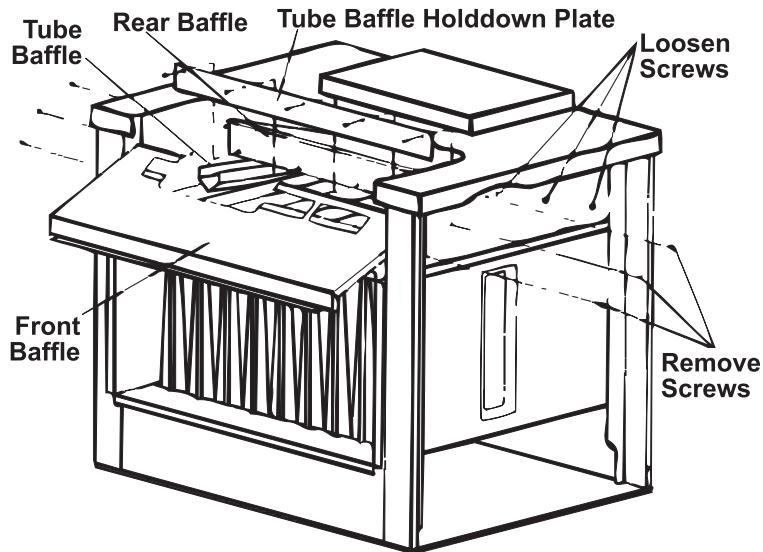

Figure 25. Heat Exchanger V-Baffles Removal
- b. Remove heat exchanger V-baffles (see Figure 25):
- (1) Remove ends of flue gas collection box.
- (2) On control side of furnace, remove venter assembly and flue outlet duct to gain access to collection box end.
- (3) For unit sizes 125–300, remove screw that secures one tube baffle retaining angle on each inside wall of collection box and remove angle.
- (4) For unit size 400, remove inner baffle from flue collection box: on control side, align inner baffle with slot in collection box edge and pull inner baffle until it clears heat exchanger. Remove screw at each end and slide flue diverter out of furnace.
- (5) Pull V-baffles out of heat exchanger.